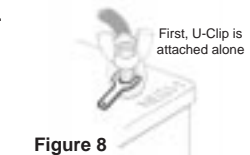

Figure 8
3. Install band (item ⑥) Slip band around battery. **DO NOT position PriorityStart!** under the band at this time.
4. Install U-Clip (item ⑤) securely to negative battery cable and post. Reconnect negative battery cable [Fig.8.] **DO NOT** connect ground wire to U-Clip at this time.